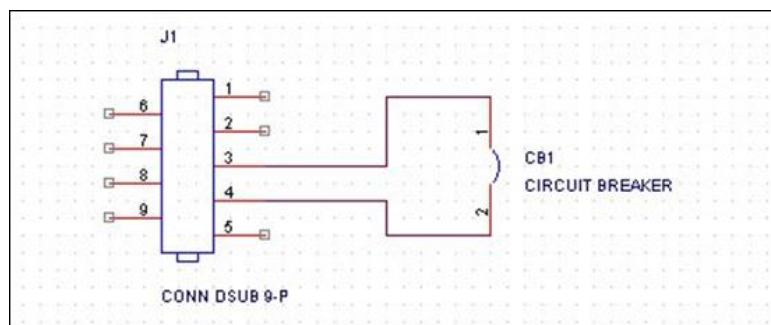

Figure 6: How to connect an external trigger switch
- Connect a switch from pin 4 on CAN channel 1 to ground, which can be found on pin 3 on the same connector. See Figure 6 on Page 13.